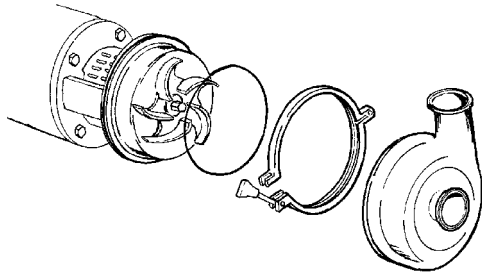

Figure 40 - Install O-ring, Casing And Clamp
B. Set Screw (2)	E. Cap Screws
15. Install O-ring and casing; clamp in place. (Figure 40).